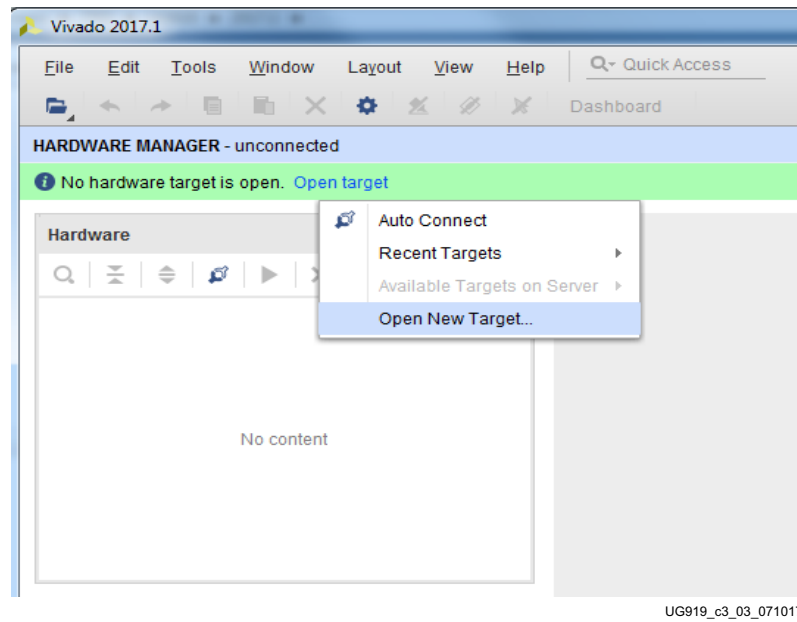

Figure 3-3: Using the User Assistance Bar to Open a Hardware Target
- a. Click **Open New Target** (Figure 3-3).